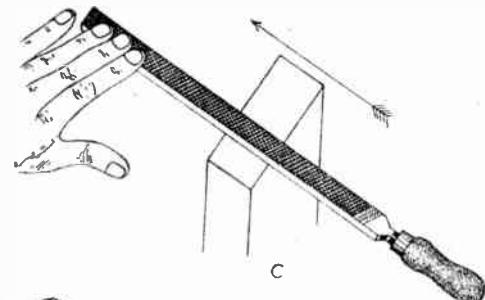

Fig. 2 Finish filing and draw filing
Finish filing is done with a fine cut or smooth file, and the file should be lightly held. The fingers of the left hand are simply held on the end of the file, as indicated in view (C) Fig. 2. Hold the file lightly by the handle, and like the previous cases, the cutting is done in the forward direction indicated by the arrow. Only very slight pressure should be applied, and the file should be lifted slightly off the work on the backward stroke.
In some cases mechanics finish off the surface of metal by a method known as drawfiling. A smooth cut file is used for drawfiling, and the file is held in the manner indicated in view (D) Fig. 2. Keep the file quite flat on the work, and with even light pressure draw it along the surface forward and backward in the